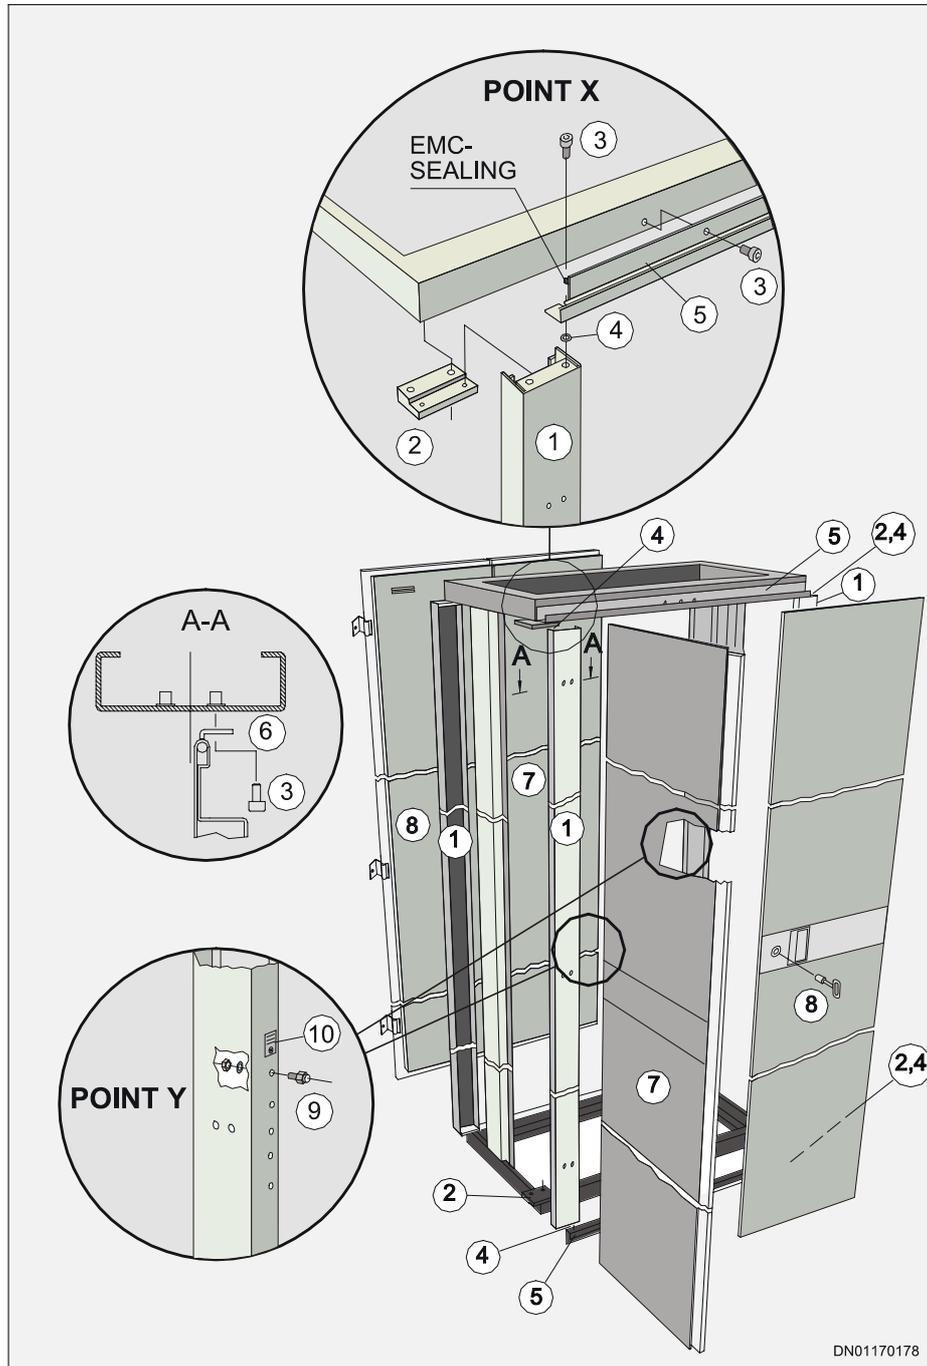

Figure 3. Mounting the doors.
1. Attach the hinge beams (1) and the upper and lower bracket (5) with the mounting plates (2) to the rack body (Figure 3, point X).
2. Install a washer (4) between the bracket (5) and the mounting plate (2). Note that these washers are optional, and they are installed if the doors are too tight to open when closed.
3. Use hexagonal socket head screws to fasten the doors by the attached hinges (6) to the hinge beams (1), and make sure that the door equipped with a handle and a lock (8) comes to the right-hand side. Leave the screws a bit loose at first and close the doors. The doors close best when closed simultaneously.
7. To complete the door installation, add the EBP connectors (9) and the stickers (10) to the left hinge beam, both at the front and the rear of the rack (Figure 3, point Y).